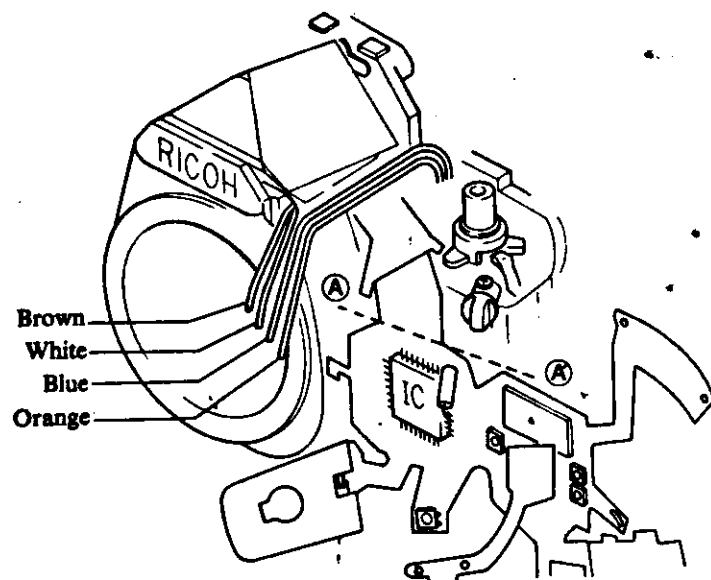

Fig. 28
- 1) Arrange two LEAD WIRES (blue and orange) along the prism cover shown in Fig. 28.